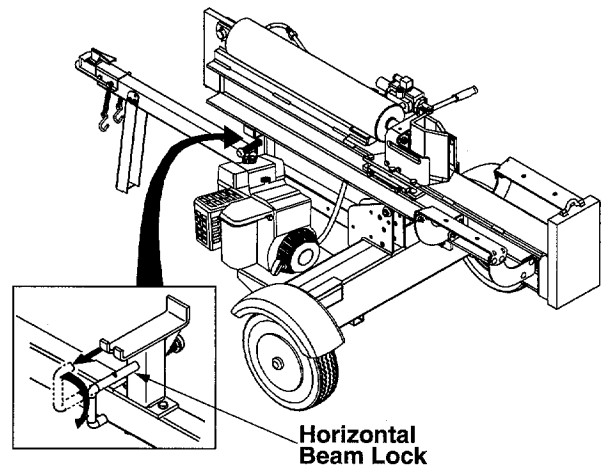

Figure 5
9. Lower the beam assembly to its horizontal position. Make certain the beam is locked securely with the horizontal beam lock. See Figure 5.